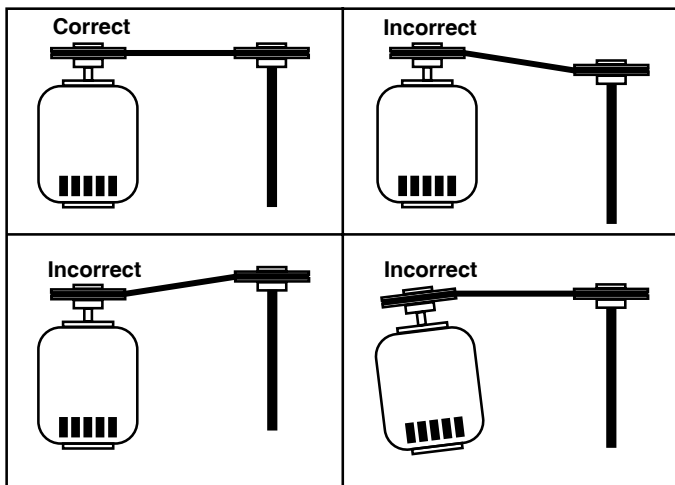
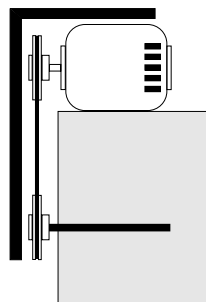

Figure 4
Figure 5
- Ensure pulleys are properly aligned. Refer to *Figure 4*.
Figure 4 illustrates correct and incorrect pulley alignment. A recommended method of inspecting the pulley alignment is shown in *Figure 5*. With the shorter leg of a carpenter's square or other straight edge lying along the case of the motor, adjust the position of the motor pulley (or the motor until the longer leg of the square is parallel to the belt.